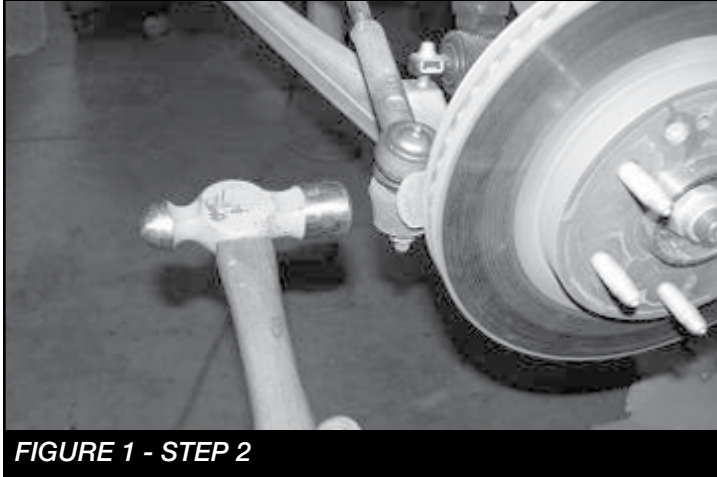

FIGURE 1 - STEP 2
2. Working from front of the truck, disconnect the tie rod ends from the steering knuckle by striking the knuckle to dislodge the tie rod end. Use care not to damage the tie rod end when removing. **SEE FIGURE 1**